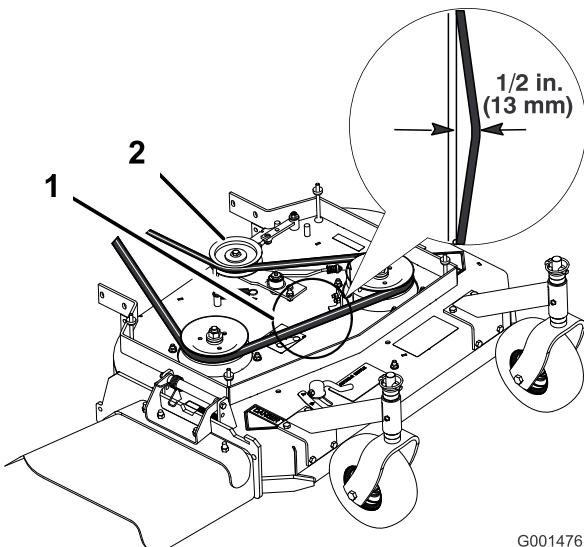
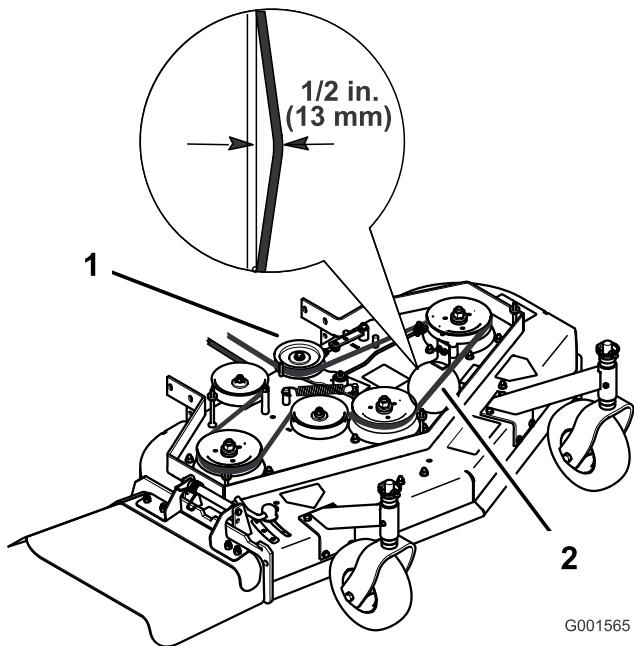

Figure 36
Figure 37
Note: The proper mower belt tension is 10-15 lbf. (44-67 N) with the belt deflected 1/2 inch (13 mm) halfway between the pulleys (Figure 36 or Figure 37).
3. Loosen the locknut on the turnbuckle (Figure 36).
4. Rotate the turnbuckle toward the rear of the mower to increase the tension on the belt. Rotate the turnbuckle toward the front of the mower to decrease the tension on the belt (Figure 36).
Note: The proper mower belt tension is 10-15 lbf. (44-67 N) with the belt deflected 1/2 inch (13 mm) halfway between the pulleys (Figure 36).
Note: The proper mower belt tension is 10-15 lbf. (44-67 N) with the belt deflected 1/2 inch (13 mm) halfway between the pulleys (Figure 37).